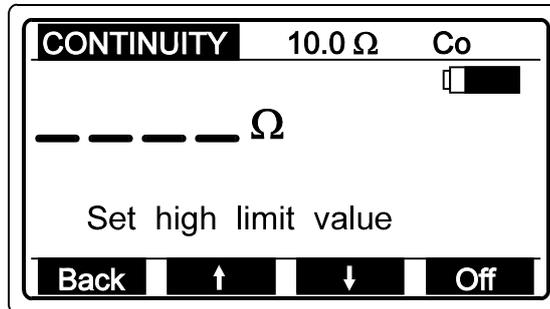

Fig. 19. Limit adjustment menu
- ◆ Press the **Back** (F1) key after setting limit value, to return to “Earth Resistance initial menu” (see the figure 19.).